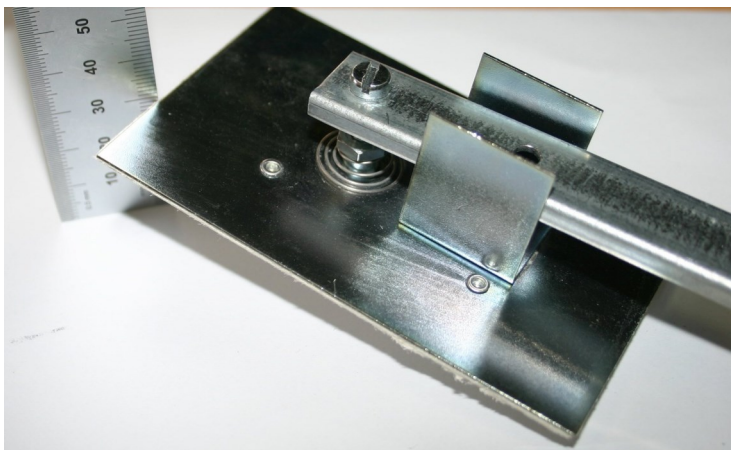

FIG. 11. Damper Flap Check
- Now measure the high end of the damper flap / plate between the bench and the top edge of the damper plate (the edge furthest from the control knob) See FIG. 11.. This measurement should be 29mm +/- 1mm, if not adjust as follows -